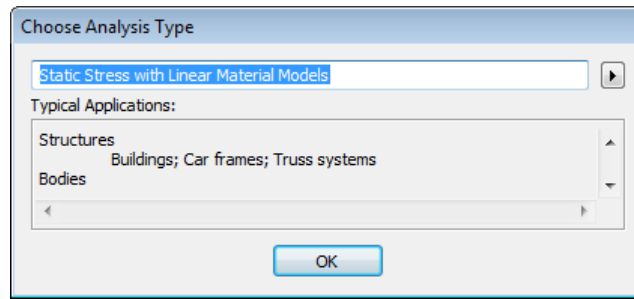

Figure 3-46 The Choose Analysis Type dialog box
5. Select the **C03\_Tut03** file and then choose the **Open** button from the **Open** dialog box; the **Choose Analysis Type** dialog box is displayed with the **Stress with Linear Material Models** analysis type selected by default in it, as shown in Figure 3-46.